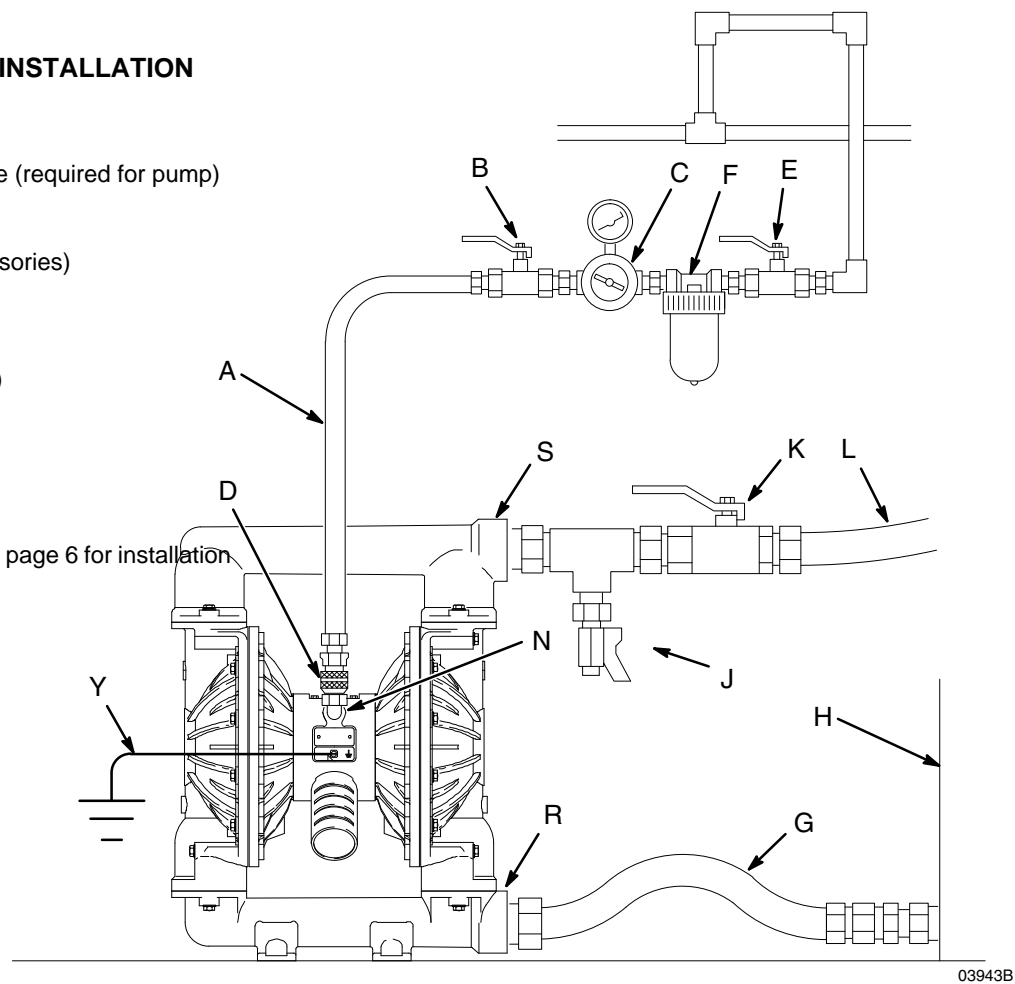

FIG. 2
A bleed-type master air valve (B) is required in your system to relieve air trapped between this valve and the pump. Trapped air can cause the pump to cycle unexpectedly, which could result in serious injury, including splashing in the eyes or on the skin, injury from moving parts, or contamination from hazardous fluids. See FIG. 2.
1. Install the air line accessories as shown in FIG. 2. Mount these accessories on the wall or on a bracket. Be sure the air line supplying the accessories is grounded.
- a. Install an air regulator (C) and gauge to control the fluid pressure. The fluid outlet pressure will be the same as the setting of the air regulator.
- b. Locate one bleed-type master air valve (B) close to the pump and use it to relieve trapped air. See the **WARNING** above. Locate the other master air valve (E) upstream from all air line accessories and use it to isolate them during cleaning and repair.
- c. The air line filter (F) removes harmful dirt and moisture from the compressed air supply.
2. Install a grounded, flexible air hose (A) between the accessories and the 1/2 npt(f) pump air inlet (N). See FIG. 2. Use a minimum 1/2" (13 mm) ID air hose. Screw an air line quick disconnect coupler (D) onto the end of the air hose (A), and screw the mating fitting into the pump air inlet snugly. Do not connect the coupler (D) to the fitting until you are ready to operate the pump.
A fluid drain valve (J) is required to relieve pressure in the hose if it is plugged. The drain valve reduces the risk of serious injury, including splashing in the eyes or on the skin, or contamination from hazardous fluids when relieving pressure. Install the valve close to the pump fluid outlet. See FIG. 2.
1. **Use grounded, flexible fluid hoses (L).** The pump fluid outlet (S) is 2" npt(f). Screw the fluid fitting into the pump outlet securely.
2. Install a fluid drain valve (J) near the fluid outlet. See the **WARNING** above.
3. Install a shutoff valve (K) in the fluid outlet line.
4. Place the end of the fluid hose (L) into an appropriate container.
5. Close the fluid drain valve (J). See FIG. 2.
6. With the pump air regulator (C) closed, open all bleed-type master air valves (B, E).
8. Slowly open the air regulator (C) until the pump starts to cycle. Allow the pump to cycle slowly until all air is pushed out of the lines and the pump is primed.
1. Fig. 2 and Parts Drawings. Follow preceding steps 1 through 7 of **Starting and Adjusting the Pump**.
2. Open air regulator (C).